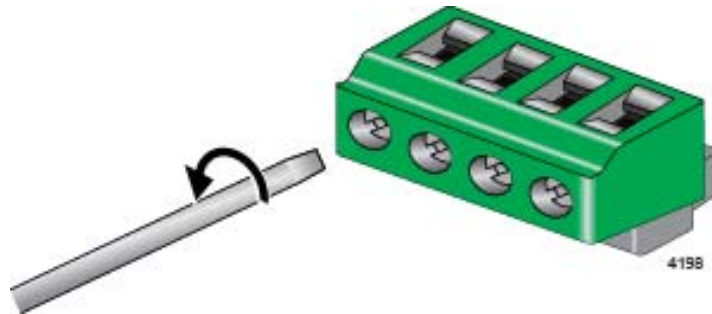

Figure 44. Loosening the Wire Retaining Screws on the PWR 1 - PWR 2 Cable Connector
4. Loosen the wire retaining screws in the connector with a #1 screwdriver. Refer to Figure 44.